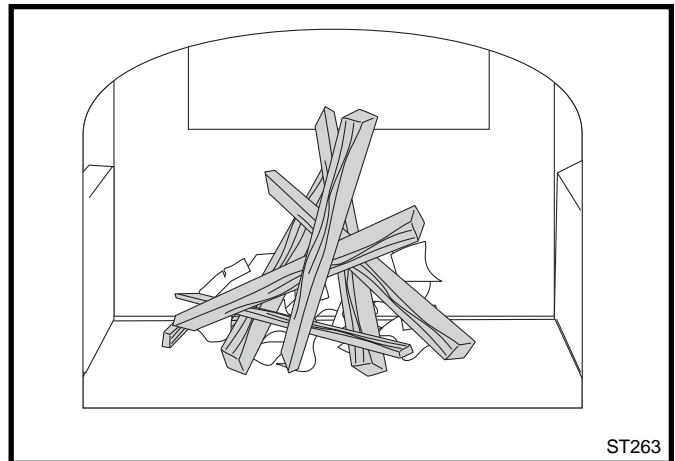

Fig. 27 Start a fire with small, dry kindling.
Step 2. Place several sheets of crumpled newspaper in the stove. Avoid using glossy or colored paper, as these burn poorly. At the front of the firebox, place on the paper six or eight pieces of dry kindling split to a finger-width size, and on the kindling lay two or three larger sticks of split dry wood approximately 1-2" (25-50 mm) in diameter. (Fig. 27)